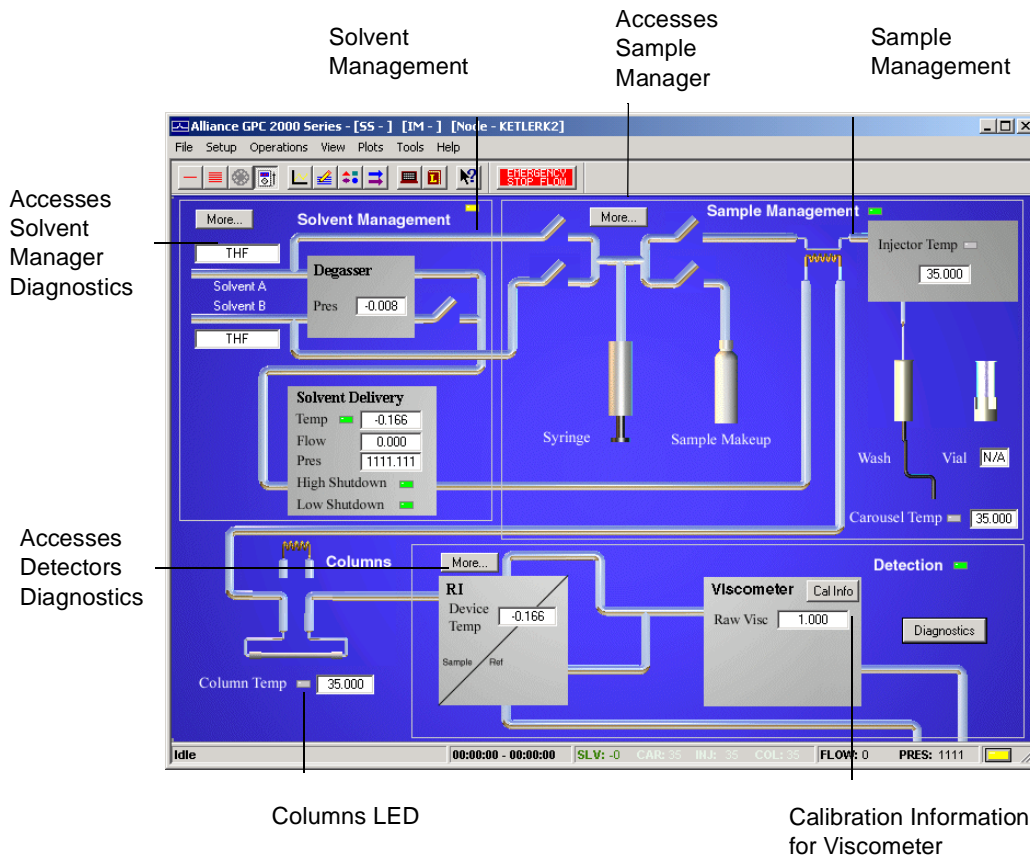
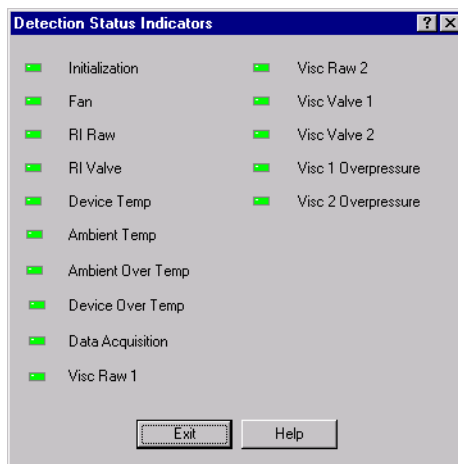

Figure 5-1 Checking the Onboard Diagnostics
Figure 5-4 Detection Status Indicators Dialog Box
2. Click  (Diagnostics) in the Alliance GPC 2000 Series system window. The Diagnostics Mode appears (Figure 5-1).
- Detection Status Indicators (Figure 5-4).
5. If the Detection LED in Diagnostics Mode (see Figure 5-1) is yellow or red, or if one of the viscometer LEDs in the Detection Diagnostics dialog box (see Figure 5-4) is yellow or red, click Cal Info in the Diagnostics mode (see Figure 5-1) for details about viscometer calibration.
1. Click  (Diagnostics). The Diagnostics Mode appears in the Alliance GPC 2000 Series window (see Figure 5-1).